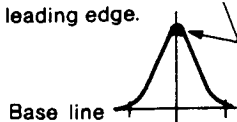

Fig. 10
1. Feed in a weak signal to Q102 from the genescope. Adjust T101 for maximum gain and the waveform indicated in Fig. 10. If the center of the waveform cannot be lined up on the marker, adjust the right/left balance.